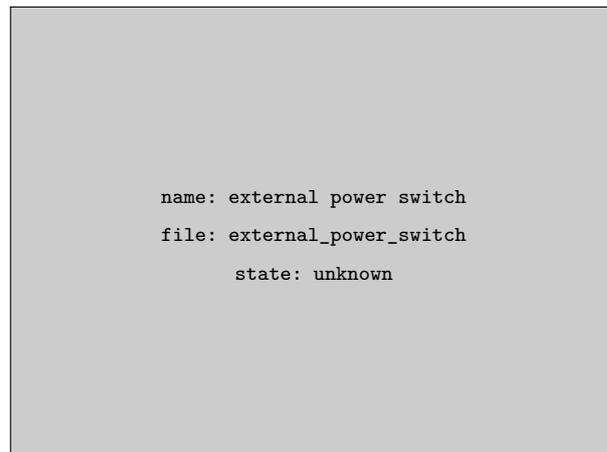

Figure 1.6 The recommended external power switch, spare part nr PR-10900. The ratings of the switch are 10A/230V.
The DTR does not have a built-in power switch. The system is always powered on when connected to a power source. Mounting an external power switch to control the DTR's power supply is recommended, Figure 1.6.
31 32 33	Power, L (31), N (32), protective earth (33), 100-240 V AC, 50–60 Hz. An external power switch (Figure 1.6) is recommended.